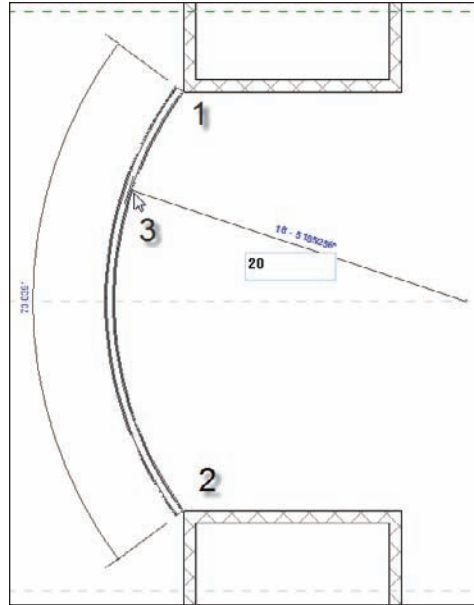

FIGURE 2.33 Drawing arched radial wall requires a three-point method. It is similar to the Start-End-Direction command in AutoCAD.
11. Move your cursor to the left, and specify a radius of 20'-0", as shown in Figure 2.33.